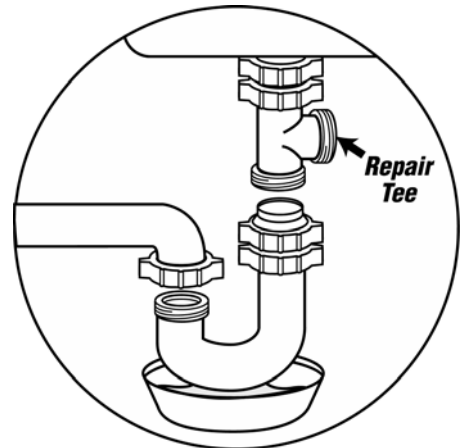

Figure 6.3
NOTE: Drain Line Adapter must be installed above the lower trap (Figure 6.3).
4. Disconnect and lower the J-bend of the trap. Have a container ready to catch trap water (Figure 6.3).
6. Insert the 3-Way Repair Tee, make sure the tube ends seat completely into sockets of tee. (Figure 6.3)